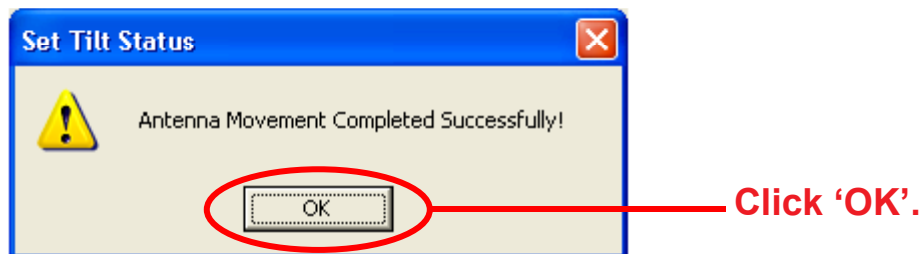

Figure 6-3. Electrical Tilt Adjustment Complete.
- You will be notified when movement is complete (Figure 6-3).